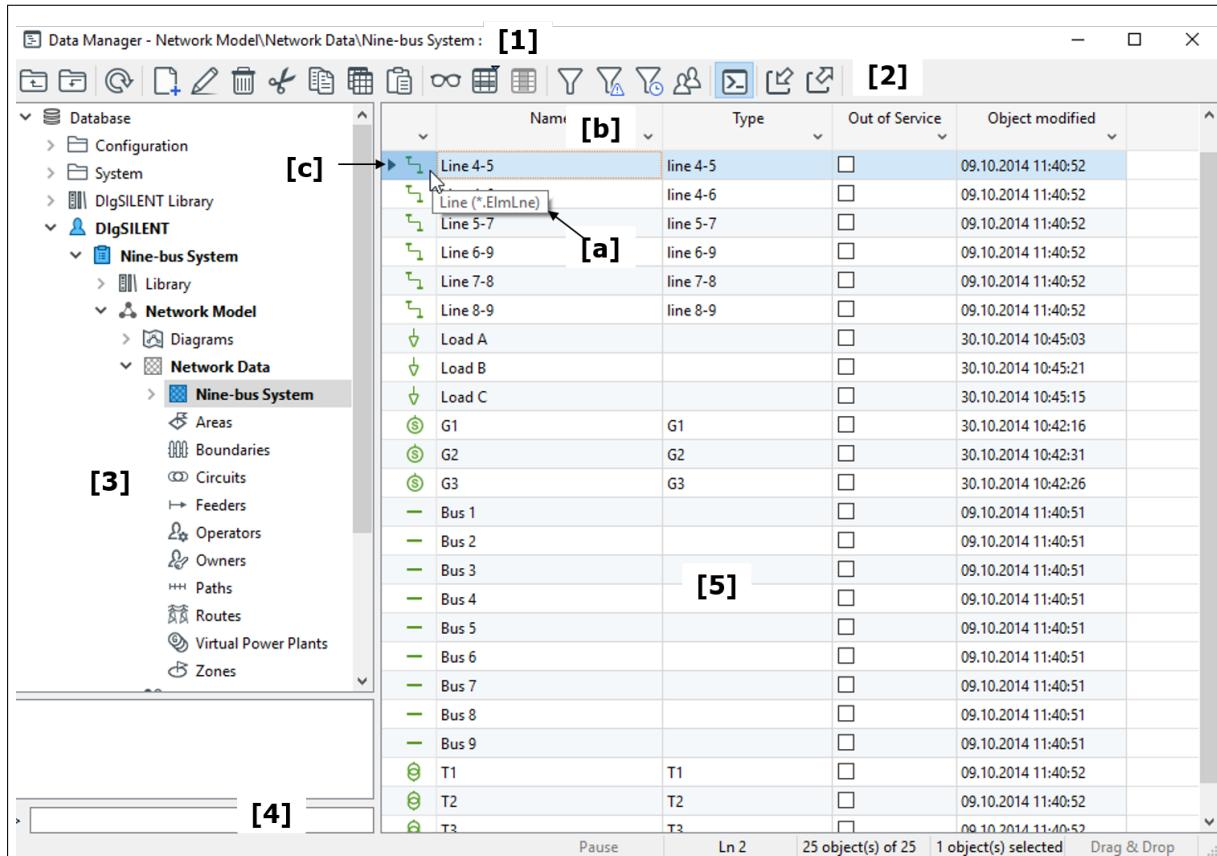

Figure 10.2.1: The Data Manager window
The Data Manager window has the following parts (see Figure 10.2.1):
- Use the toolbar in combination with the browser window. Double-click objects (see “c” in Figure 10.2.1) in the browser to open the corresponding object. This could result in opening a folder, in the case of a common or case folder, or editing the object dialog for an object. Once again, the action resulting from your input depends on where the input has occurred (left or right side of the Data Manager).